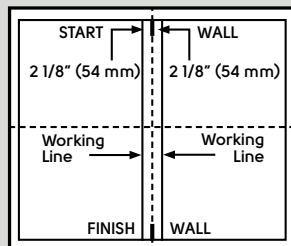
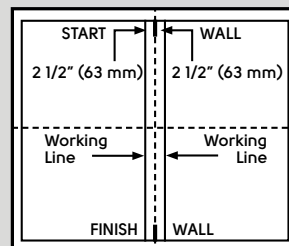

Fig. 2a
Fig. 2b
2. Measure $2\frac{1}{8}$ " (54 mm) for 6" width planks (Fig 2a) OR $2\frac{1}{2}$ " (63 mm) for 7" width planks (Fig 2b) from the left and right of the center mark at both ends of the room and strike a chalk line.